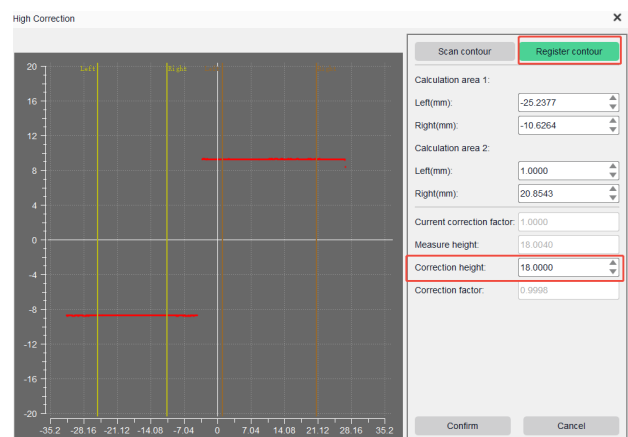

Figure 3.4.13 Register Profile, Enter Correction Height
- 4 After clicking Register Profile, enter the correction height (actual height of the standard block, unit: millimeters) in the right-hand editing interface, then click the OK button to perform height correction, as shown in Figure 3.4.13.